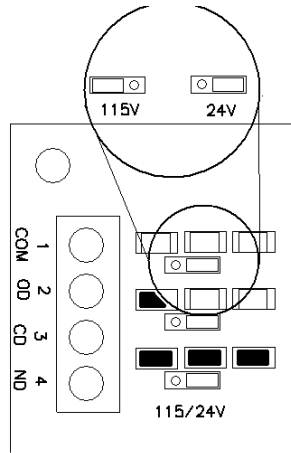

Figure 10 - Input Configuration
1. Configure the Door Board for 110 or 24 volt operation as shown in Figure 10.